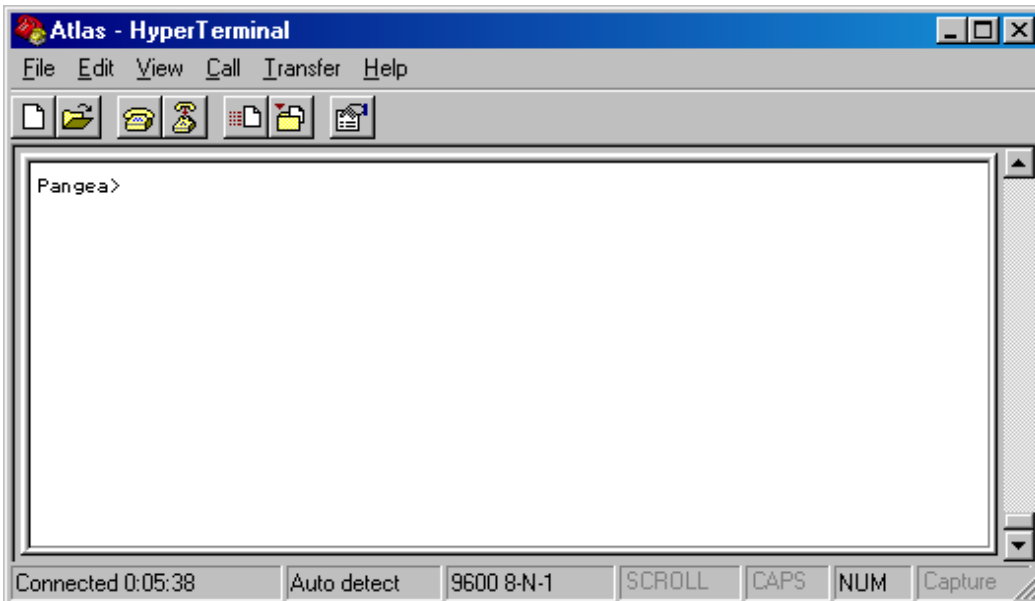

Figure 2-7. Pangea prompt in HyperTerminal.
4. Turn Atlas on. You should see the Pangea prompt. See example in Figure 2-7.